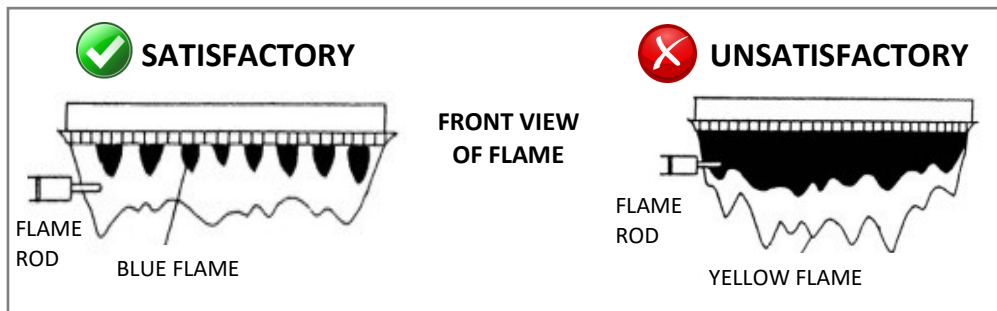

Figure 5. Satisfactory and Unsatisfactory Burner Flames
3. Check that the burner flames are operating normally. The flame can be seen through the circular window above the burner. When operating normally, the burner flame should burn evenly over the entire surface. The flame should be clear, blue and stable. A yellow flame is abnormal and maintenance is required (Figure 5).